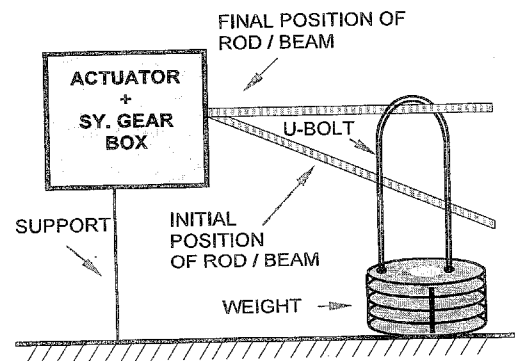

Fig.2
**(B) DYNAMIC STALL TORQUE TEST**
2. Run the actuator without load until it hits a U-bolt arrangement which has weights attached to the bottom of it. (Ref. Fig. 2).